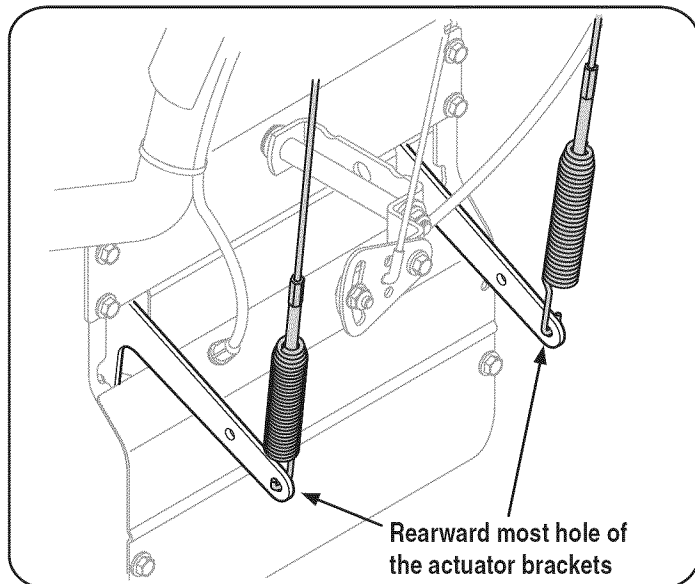

Figure 14
1. From beneath the handle, pull downward on the appropriate cable and unhook the spring found on the end of the cable from its respective actuator bracket. Refer to Fig. 14.